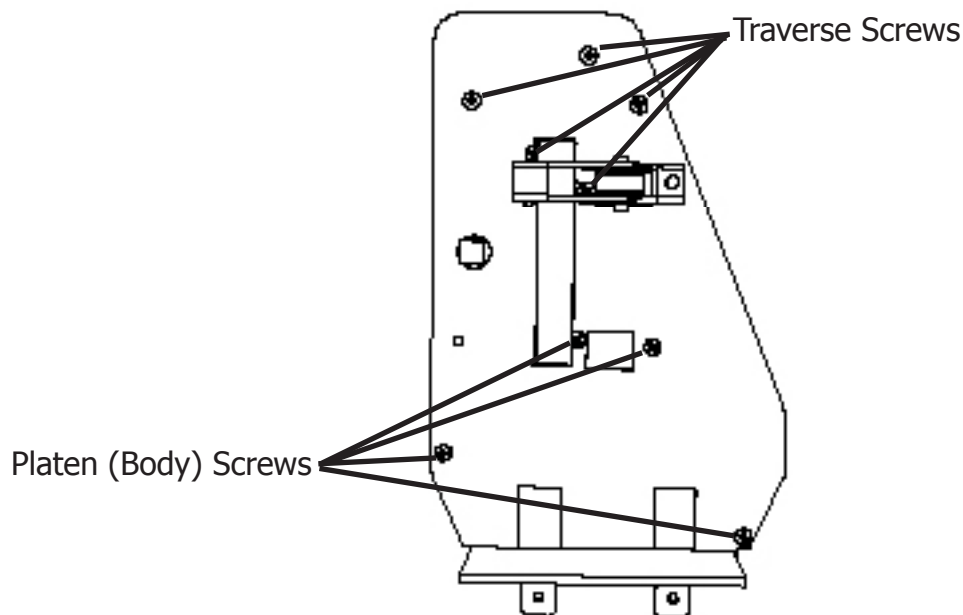

Fig. 6 - Left end plate
- 4) Remove the carriage cover unscrewing the two (2) phillips screws. One is on the bottom left side, and the other is on the front above where the blade holder is inserted.
- 8) Now it's time to start removing the left end plate of the machine. Start by taking out the screws that hold the body to the machine. Remove all but one screw for the traverse, and one for the platen. See Fig. 6